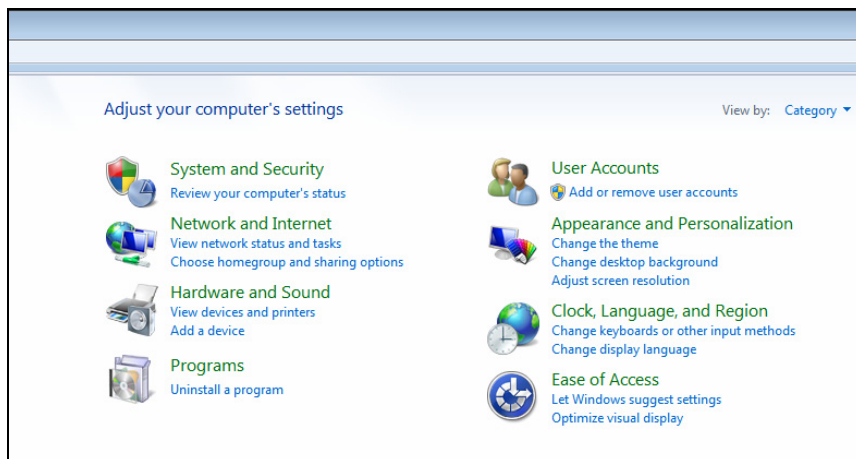

Figure 3-30
1. Follow Steps 1 and 2 in 3.8 *Configuring the IP Address* to access the Control Panel window. See Figure 3-30.